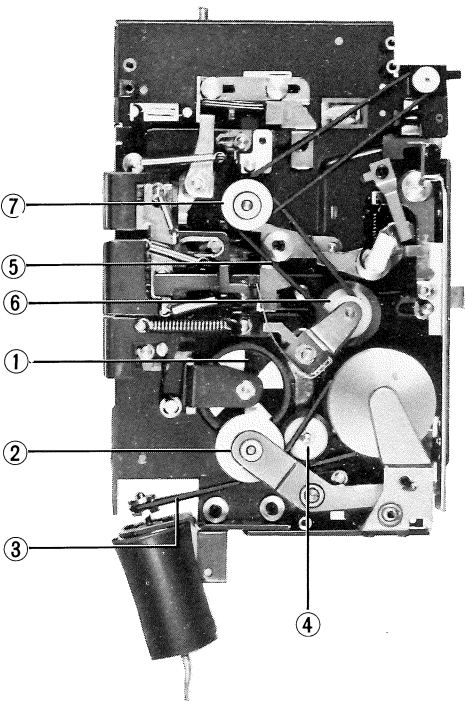

Fig. 18
6. Playback torque Fig. 18
- 2) Replace clutch disk ass'y. ①
- 3) Replace take-up wheel. ②
- 4) Replace drive belt. ③
7. Fast forwarding torque Fig. 18
- 2) Replace idler ass'y. ④
- 3) Replace clutch disk ass'y. ①
8. Rewinding torque Fig. 18